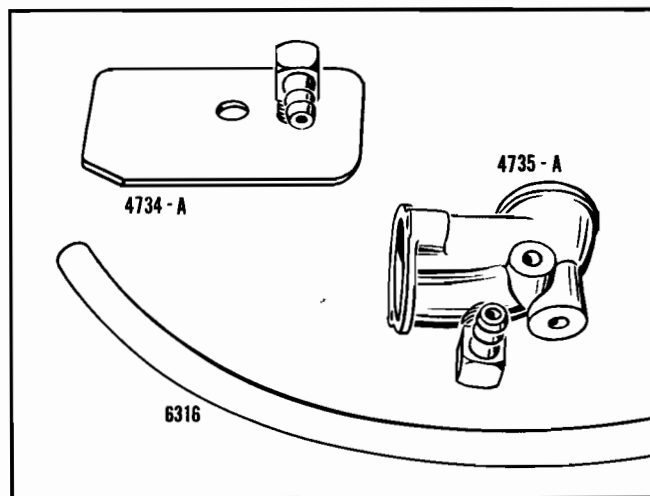

Figure No. 36—Breather Tube Parts—VS-700
**Clinton Breather Tube.** In some localities where Clinton Engines are operated under extreme dusty conditions, dirt and dust is taken into the engine through the valve chamber cover. To avoid this, a method has been developed to filter all air taken in through the valve chamber cover through the oil bath air cleaner. Replacement of the valve chamber cover and the air horn is necessary, so that the new system can be installed. The new valve chamber cover and air horn are fitted with connectors and joined with a piece of Flexible hose. Parts required to make this adjustment on specific engines are listed and illustrated in Figures No. 36, 37, 38.